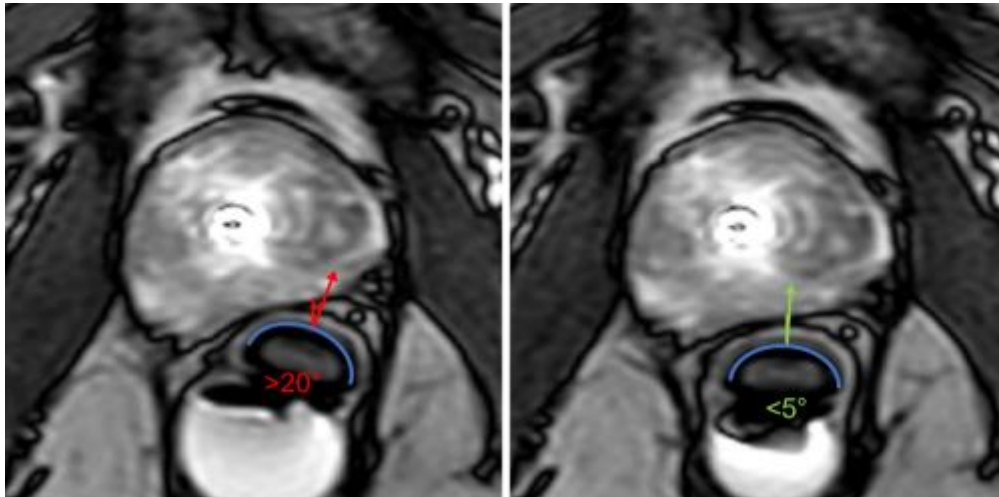

Figure 30: Axial images depicting ECD oriented incorrectly (left, rotated more than 20 degrees) and correctly (right, facing up towards the prostate)
- b. The orientation of the cooling window should face the prostate (anterior), as confirmed on the axial MRI (Figure 30).